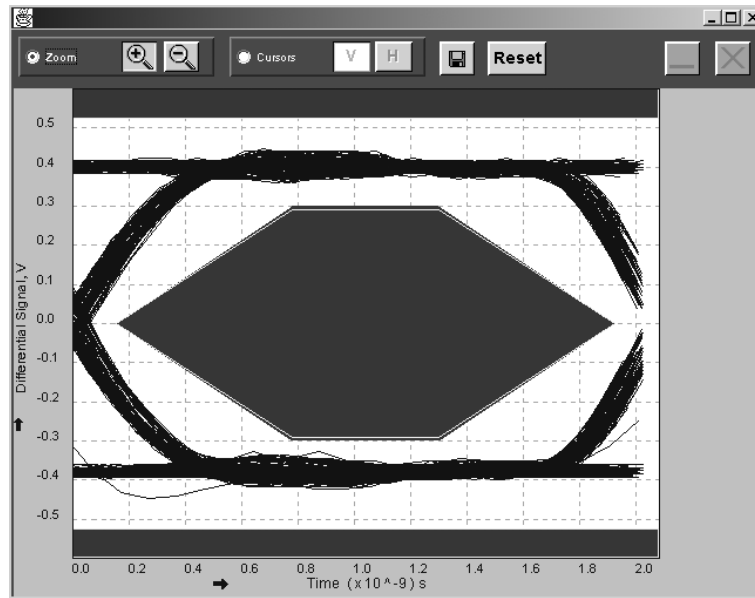

Figure 2-79: Eye diagram for high speed signal quality tests
- Click on the Eye Diagram in Results Summary or the Results Details to view the eye diagram. Figure 2-79 shows the eye diagram for high speed signal quality tests.